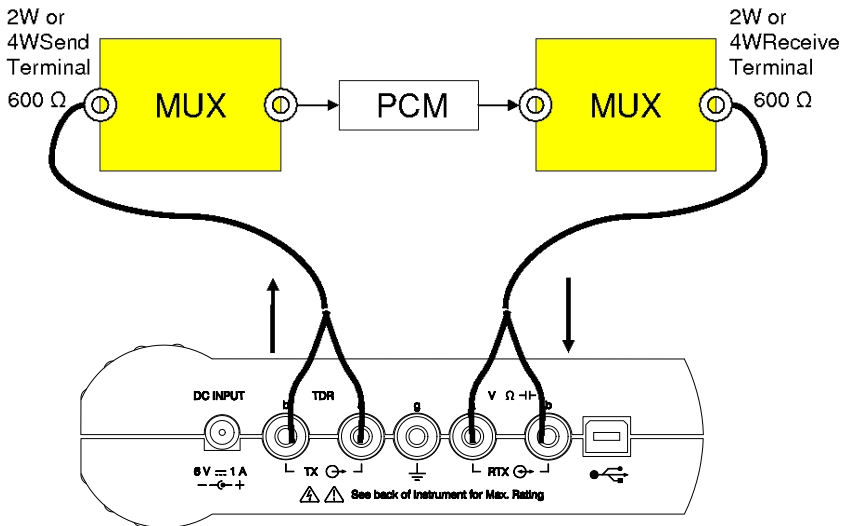

Figure 3.1: Test Setup – VF PCM Testing with LT51
1. Make the connections between the Test circuit and the LT51 as in Fig. 3.1.